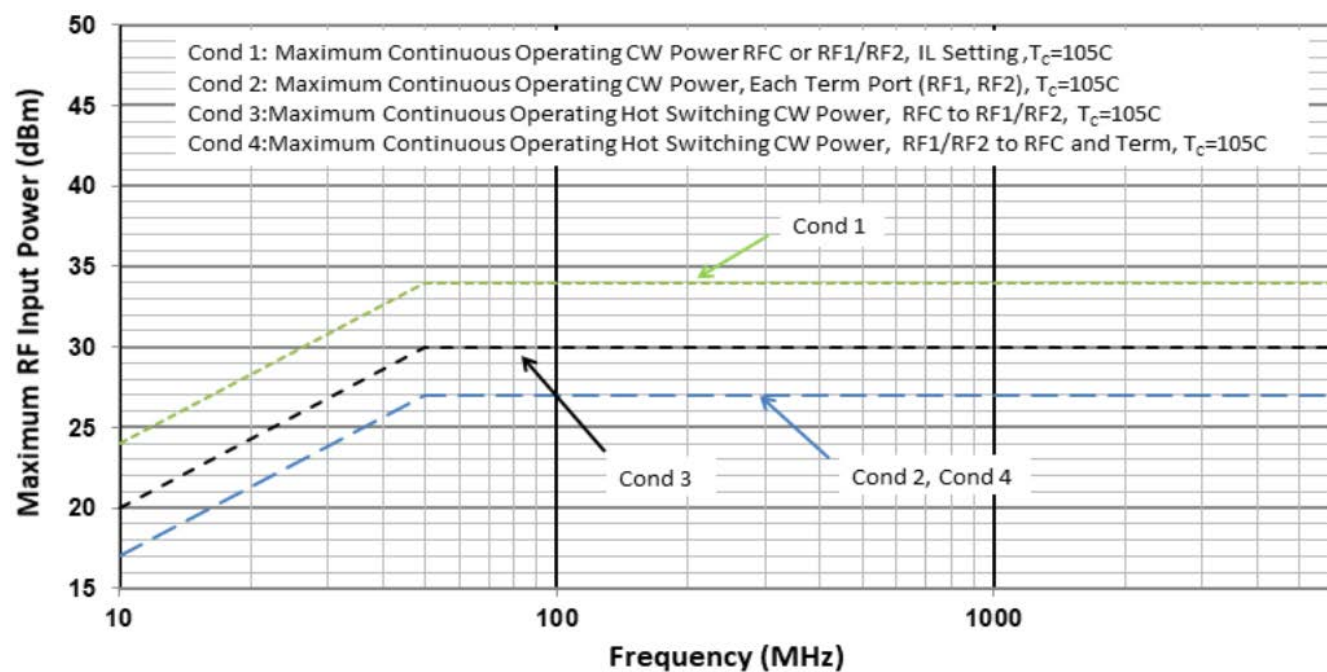

Figure 2. Maximum RF Input Operating Power vs. Frequency
| Figure 2. Maximum RF Input Operating Power vs. Frequency..... | 7  |
1. Levels based on:  $V_{DD} = 3.1\text{V to } 5.25\text{V}$ ,  $250\text{MHz} \leq F_{RF} \leq 6000\text{MHz}$ ,  $Z_S = Z_L = 50\Omega$ . See Figure 2 for power handling derating vs. RF frequency.